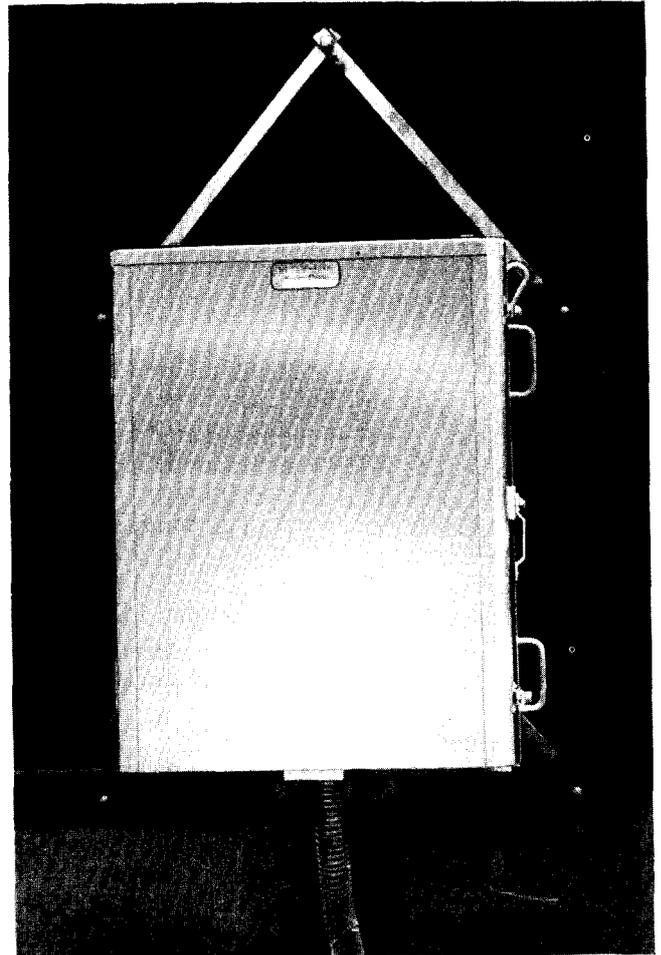
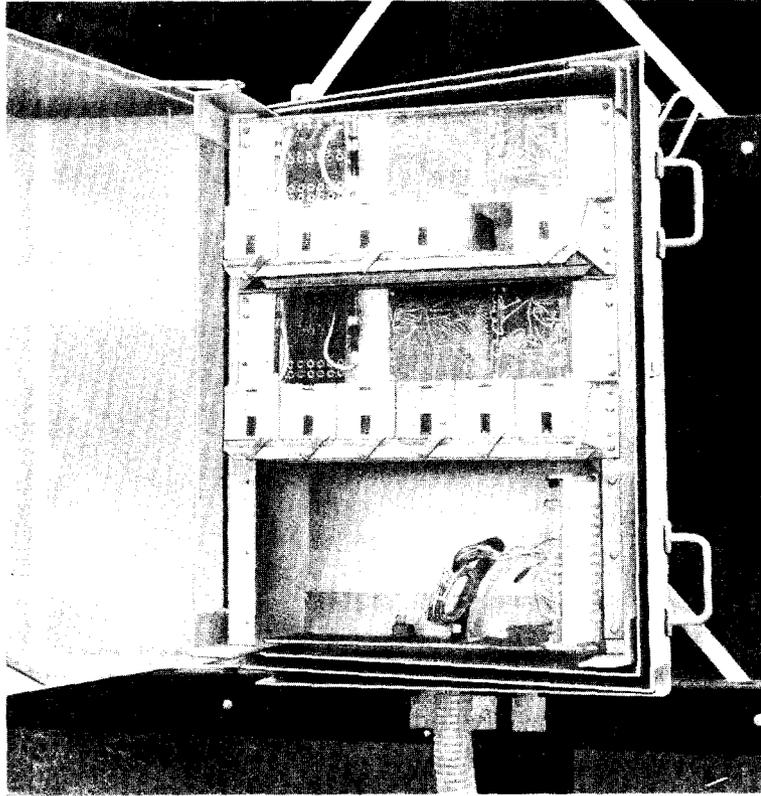

Fig. 1—Remote Message Repeater—Remote Cabinet
Fig. 2—Remote Message Repeater—Door Open
2.01 The remote message repeater system consists of a pole-mounted repeater cabinet (Fig. 1) equipped with a stub cable, lightning protector block, and connectors for plugging in two 596A panels. A power and alarm panel (J98623A), located in the central office, supplies power over a separate pair for each 596A panel and acts as an interface with the central office alarms. A view of the open cabinet illustrating the equipment mounting arrangement is shown in Fig. 2.